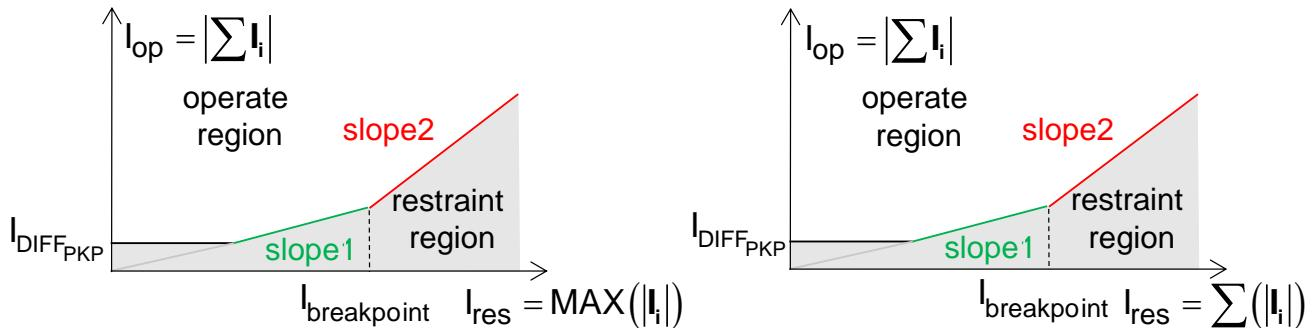
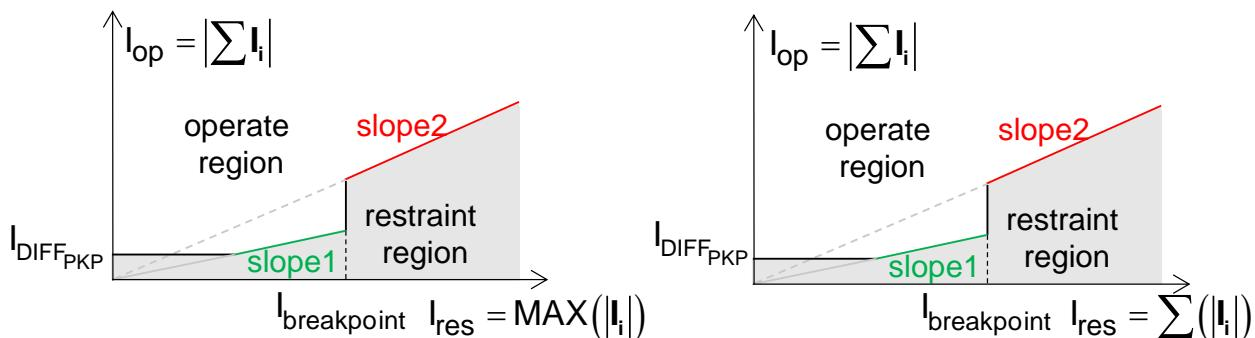

Figure 2-1: Continuous characteristic, two types of restraint quantities.
Figure 2-2 Discontinuous characteristic, two types of restraint quantities.
- If "Continuous percent differential dual-slope" is selected, the characteristic has 2 slopes where the maximum operating current before tripping is continuous at the breaking point (see Figure 2-1)
- If "Discontinuous percent differential dual-slope" is selected, the characteristic has 2 slopes where the maximum operating current before tripping and the restraint current are always proportional (see Figure 2-2)
- $I_{\text{breakpoint}}$ :** Threshold of restraint current to go from slope 1 to slope 2 (see Figure 2-1 and Figure 2-2).